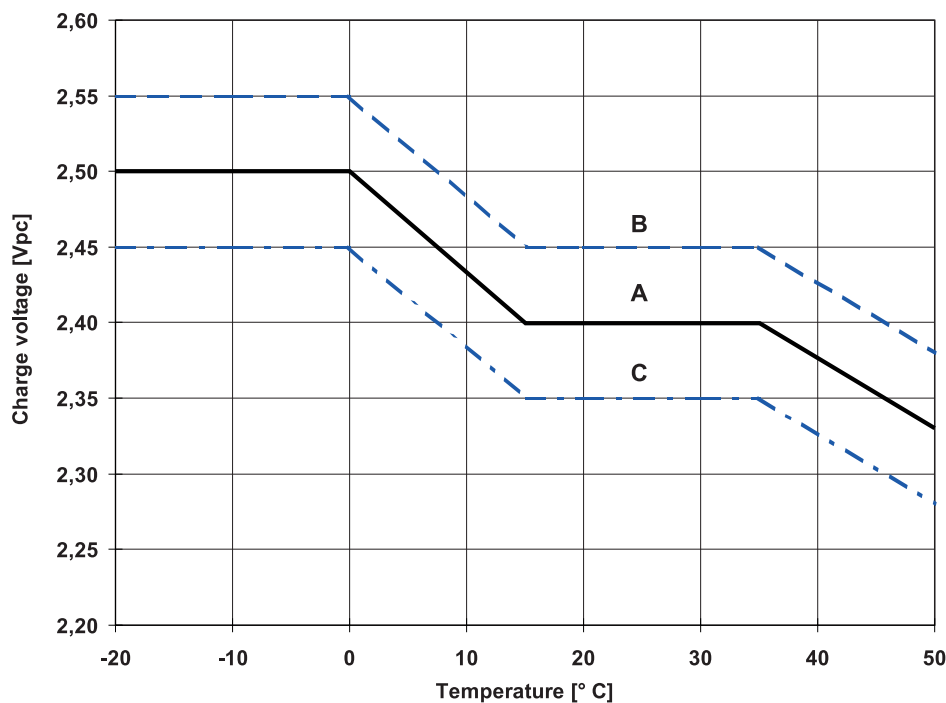

Fig. 1: Charge voltage vs. temperature for solar mode. Charge modes:
Recommended charge voltages for cyclical application: See fig. 1 and item 2.8.
I-phase = up to voltage acc. to fig.1 at 20° C
I-phase = up to voltage acc. to fig. 1 at 20° C
When recharging acc. to fig.1 the actual value of the alternating current is occasionally permitted to reach 10 A (RMS)/ 100 Ah nominal capacity. In a fully charged state during float charge the actual value of the alternating current must not exceed 5 A (RMS)/ 100 Ah nominal capacity.
The temperature related adjustment has to be carried out acc. to fig. 1. An adjustment of the charge voltage must **not** be applied within a temperature range 15°C to 35°C .